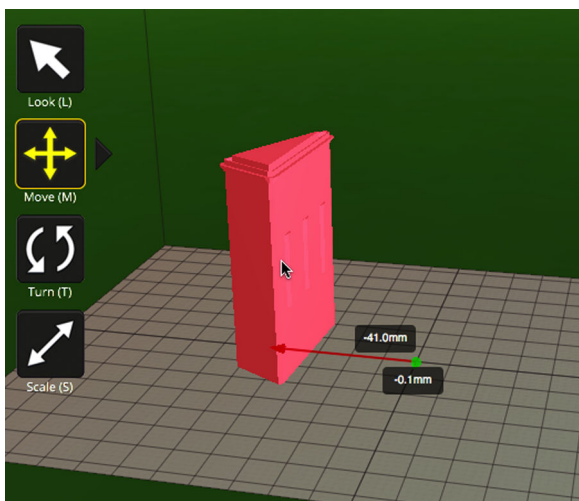

Figure 6-28. The Flatiron model in MakerWare
3. Click the Add button. Locate the file *FlatIron.stl*, select it, then click Open. The model will appear in MakerWare (Figure 6-28).